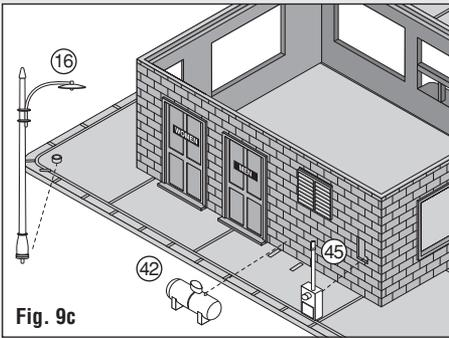

Fig. 9c
Back (Fig. 9c): Propane Tank (42), Junction Box (45), Lamppost (16)